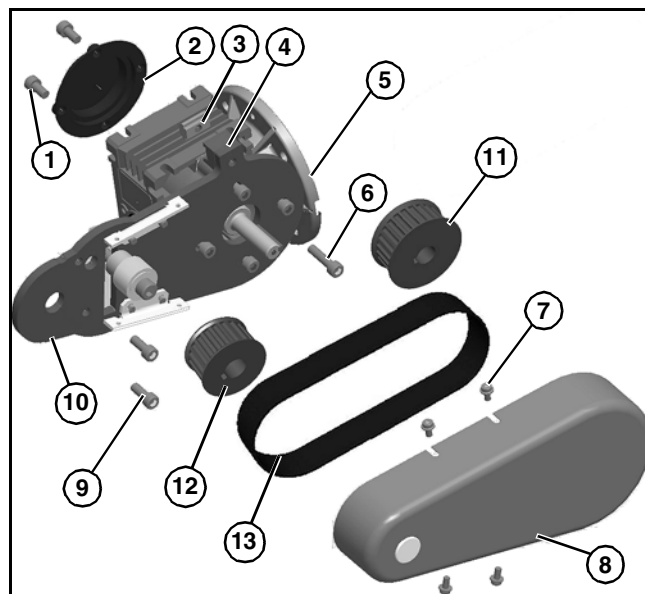

Figure 2
Type 1 mounting package shown below left (Figure 2). Type 2 mounting package shown below right (Figure 2).
1. Gather installation components (Figure 2)